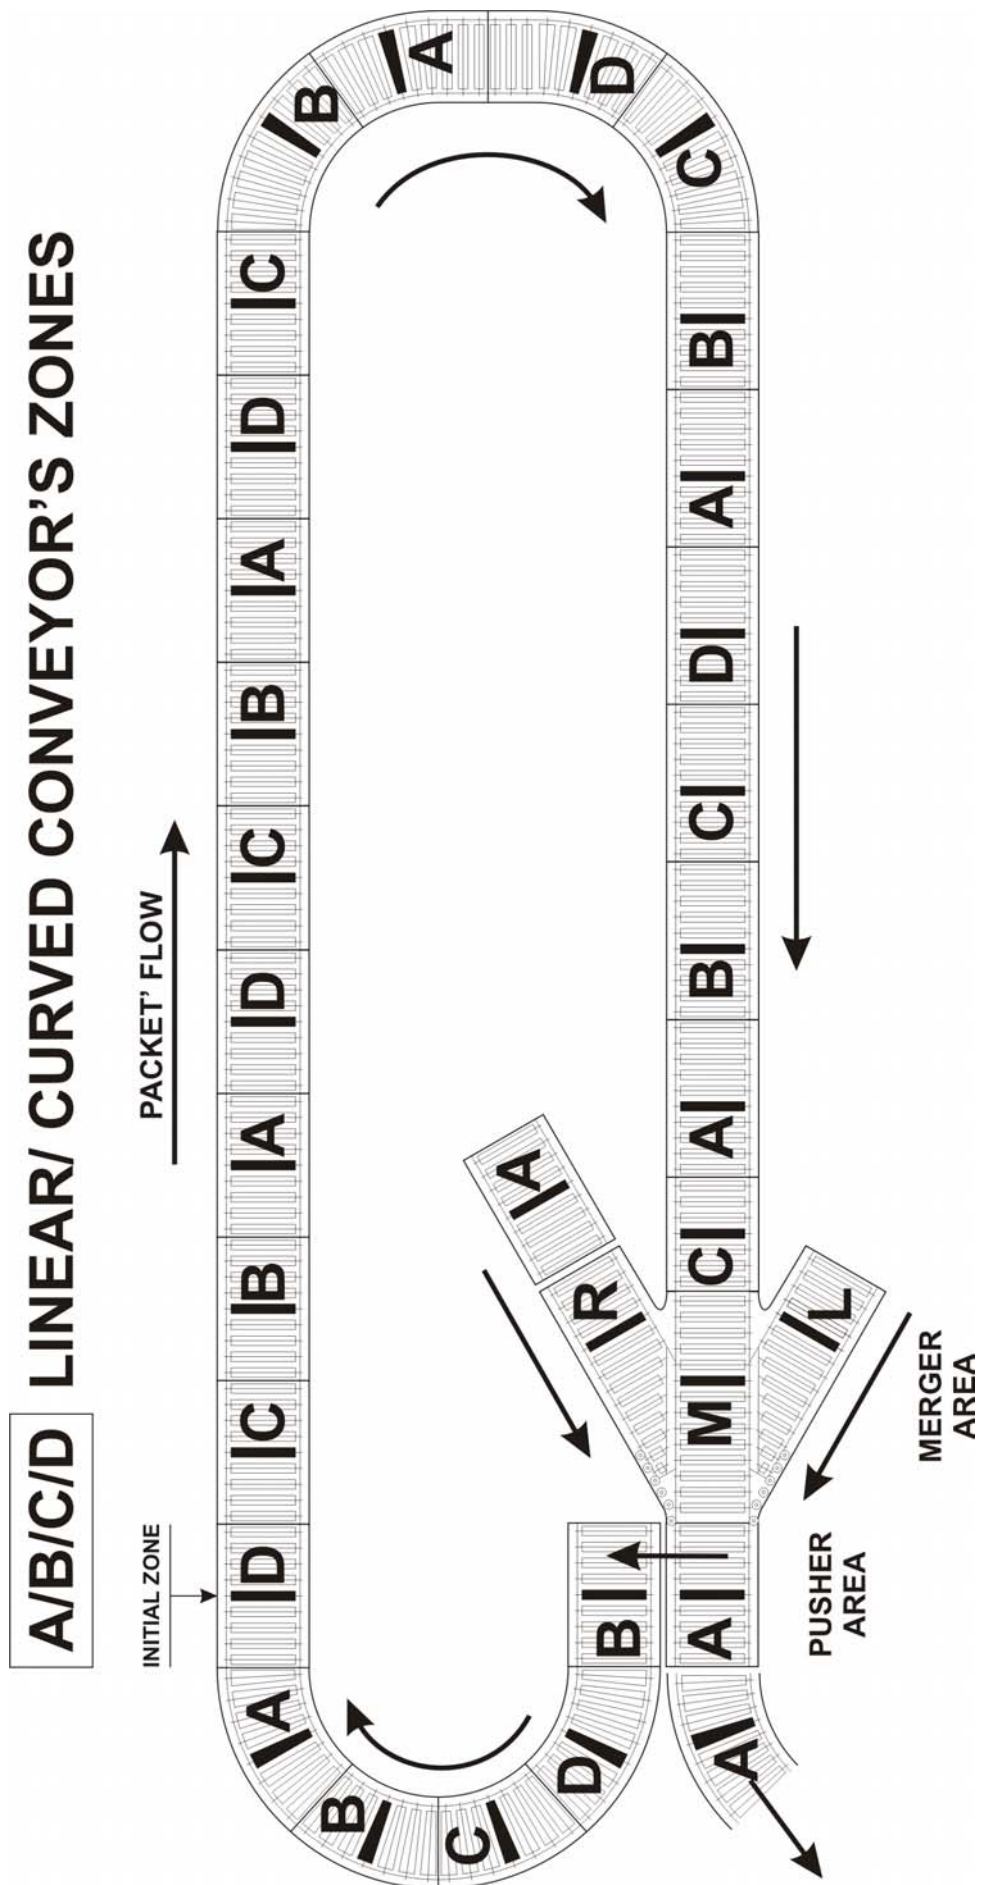
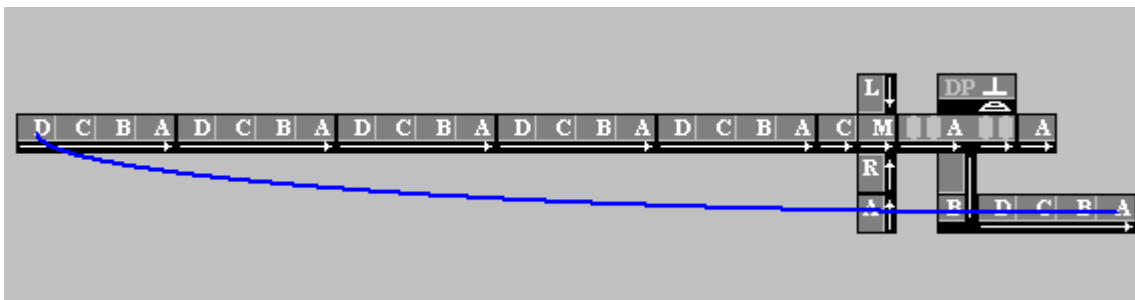

Fig. 4.1.1
Fig. 4.1.2
A very simplified example of a conveyor is shown in Fig. 4.1.1.
The linear zone **D** of the conveyor is selected as **initial zone** as an example as shown in Fig. 4.1.1.
In this case the following aspects can be recognized in Fig. 4.1.1:
The picture shown in Fig. 4.1.2 illustrates the complete set-up of the control modules that are in position to control the above target conveyor.
The comparison between the conveyor's structure (Fig. 4.1.1) and the control modules' diagram (Fig. 4.1.2) shows the affiliation of the very first (left-hand) **control D zone** with the **conveyor's initial D zone**.
- g. The feedback line (Fig. 4.1.2), connecting the "last" **A** zone with the **initial D** zone actually closes the loop as required by the conveyor's close loop sector (Fig. 4.1.1)